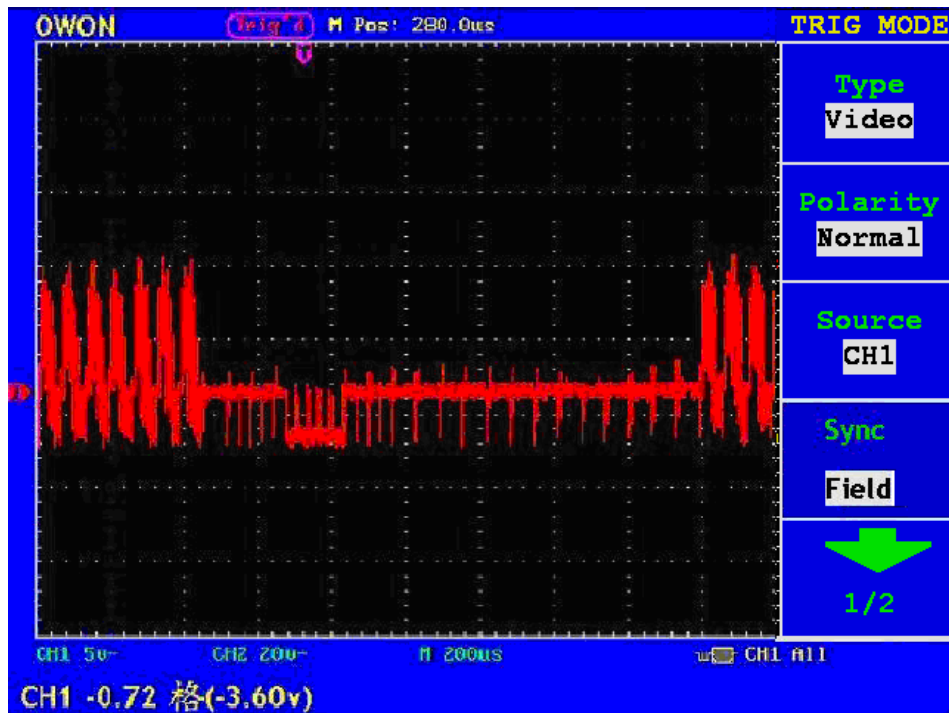

Fig. 41 Video field trigger Oscillogram
- 5、Press F4 to choose synchronization as “Field” (refer to Fig.41)